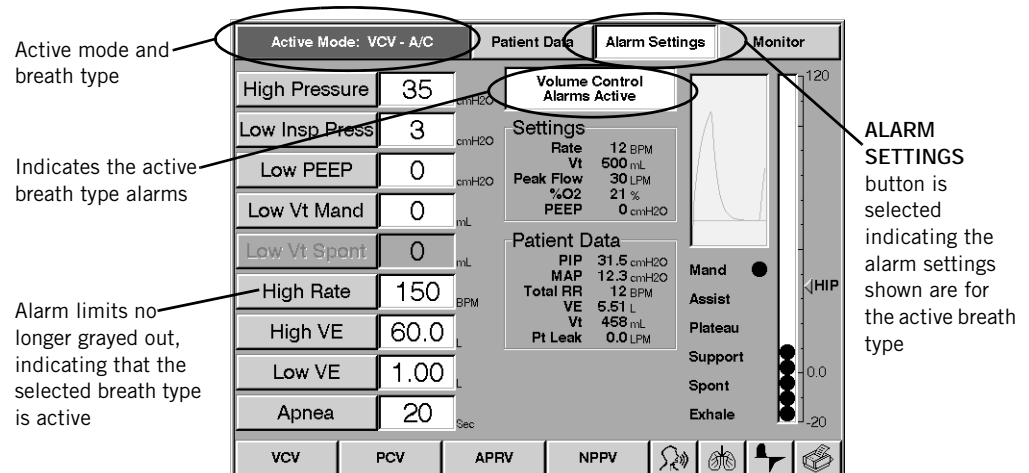

Figure 8-30: Alarm Limits Screen (PCV active)
6. If the operator activates the new breath type and then reviews alarm settings, the ventilator uses the new breath type and displays the alarm settings of the new breath type (Figure 8-30).